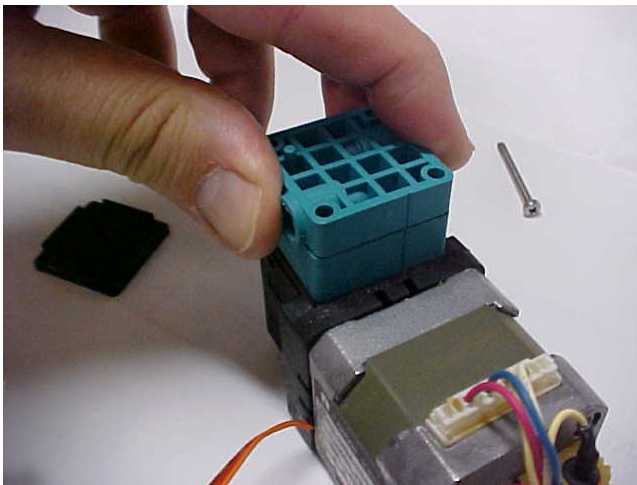

FIGURE 8 CONNECTION PLATE PROPERLY ATTACHED TO INTERMEDIATE PLATE. NOTE ALIGNMENT GROOVE OF TWO PIECES MATCHES UP.
13. Lay the connection plate carefully on the intermediate place. Please note there is only one proper position. An alignment groove is found in the connection plate and the intermediate plate. These must match up. (See figure 8)